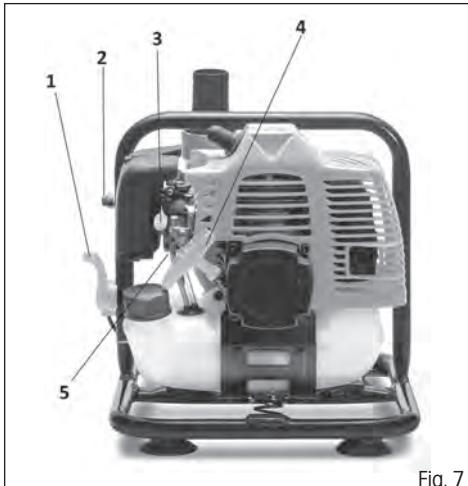

Fig. 7
1. Set the throttle trigger (fig.7, point 1) approximately to halfway of its path.
2. Repeatedly push down the fuel primer bulb (3 to 5 presses), until the fuel gets to the carburettor. (Fig. 7, point 5)
3. Move the choke lever upwards to the "OFF" position (=air supply turned off, i.e. choke turned on). (Fig. 7, point 3)
4. Hold the pump on the ground with your left hand and pull the starting cord with your right hand (fig.7, point 4), until the engine is given a spin (attempting to start up).
- ❖ To control the engine speed along with the pump output, operate the throttle trigger (fig.7, point 1).
- ❖ To stop the engine, press the STOP button (fig.7, point 2).